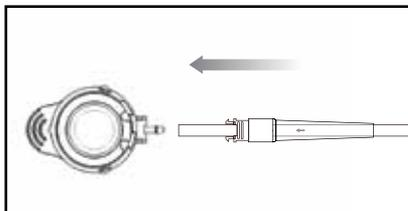

Figure 2. Tubing alignment with Access Port's outlet barb
3. The tubing is then pushed onto the Access Port's outlet barb until the tubing is flush against the Access Port (**Figure 2**).